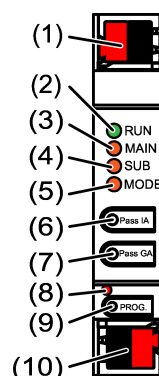

Figure 1: Front view
The status LED **RUN** displays the state of the filter functions, (see figure 1).
- Connect bus lines to KNX device connection terminals (see figure 1) observing the correct polarity.
- Connect the higher-order line to the lower device connection terminal (10). Power is supplied to the device via this terminal.
- Connect the subordinate line to the upper device connection terminal (1).